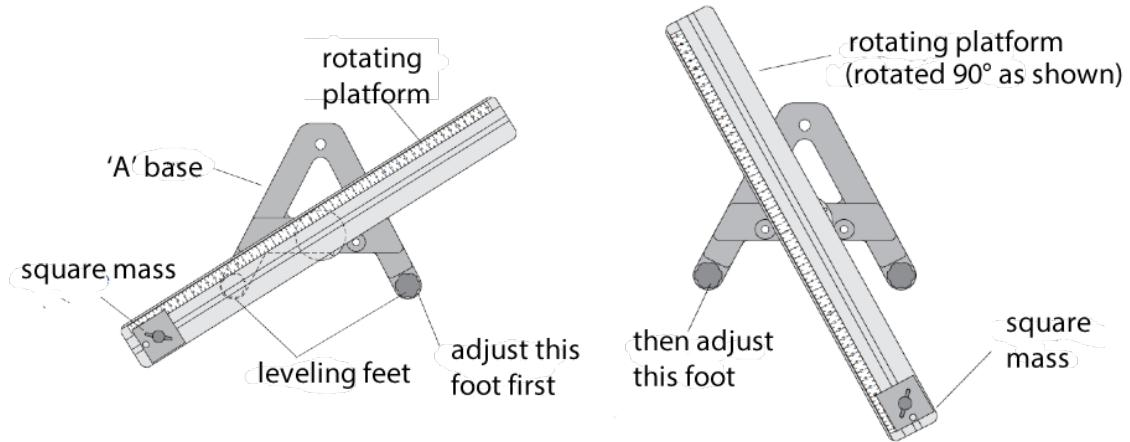

Figure 2: Diagram of the necessary parts to level the apparatus.
1. Adjust the position of the 300 g square mass so that its center is at the 22 cm mark by loosening the screw, sliding the mass along the track, and tightening the screw so the mass will not slide. Rotate the track until the 300g mass is above the left foot of the “A” base, on the same side as the pulley. See the left side of Figure 2.
2. Adjust the leveling screw on the side opposite the pulley until the end of the track with the square mass is aligned over the leveling screw on the other leg of the base. See the left side of Figure 2.
3. Rotate the track 90 degrees so it is parallel to one side of the “A” and adjust the other leveling screw until the track will stay in this position. See the right side of Figure 2.